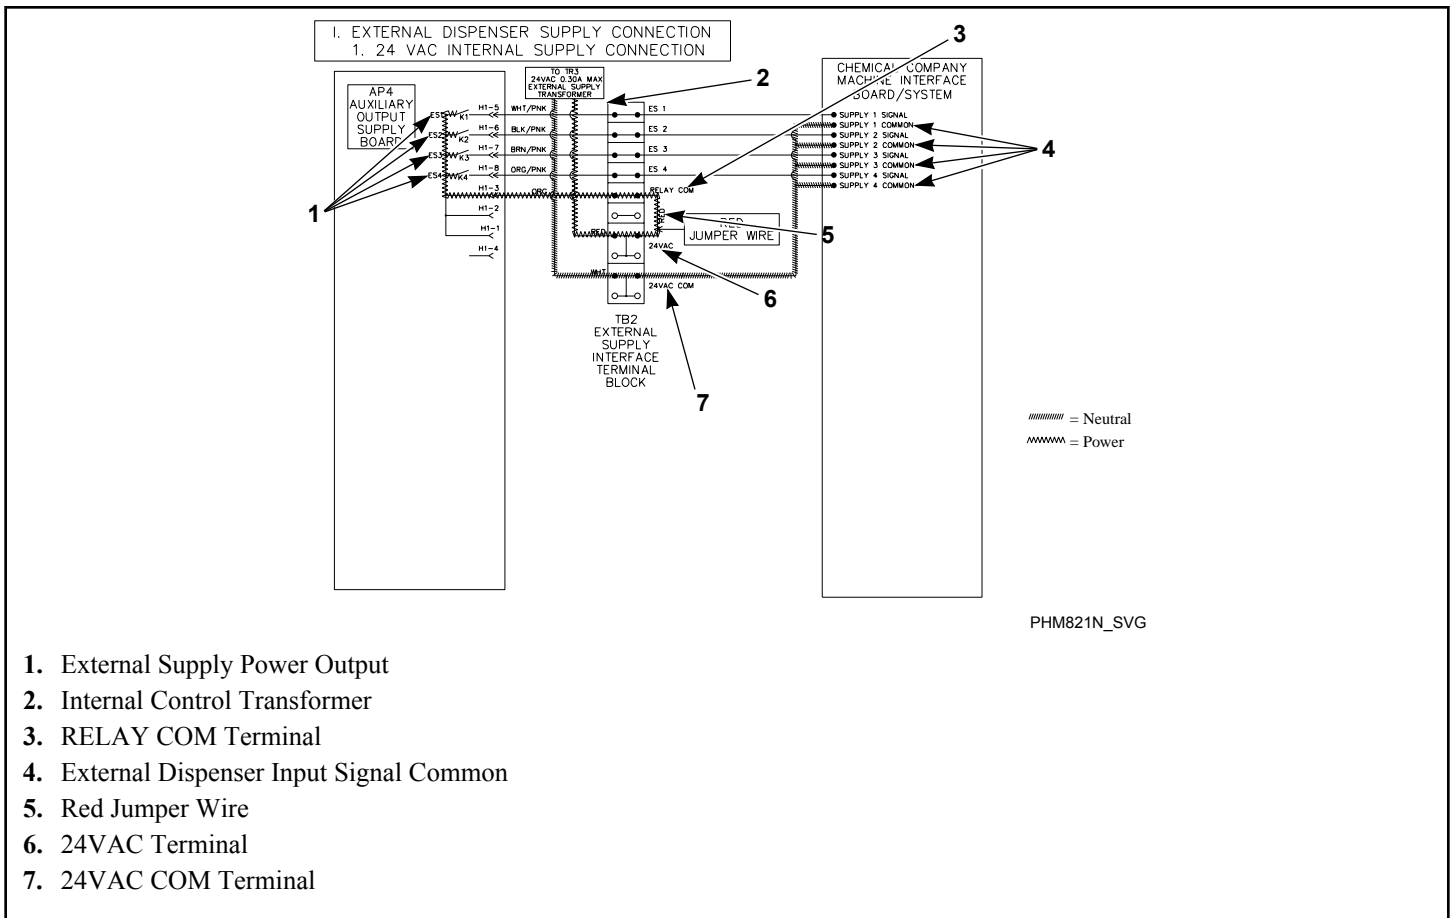

Figure 32
- The second terminal is used to connect the other side of the control transformer to the machine output signals common through a red jumper wire between “24VAC” and “RELAY COM”. Refer to *Figure 32*.